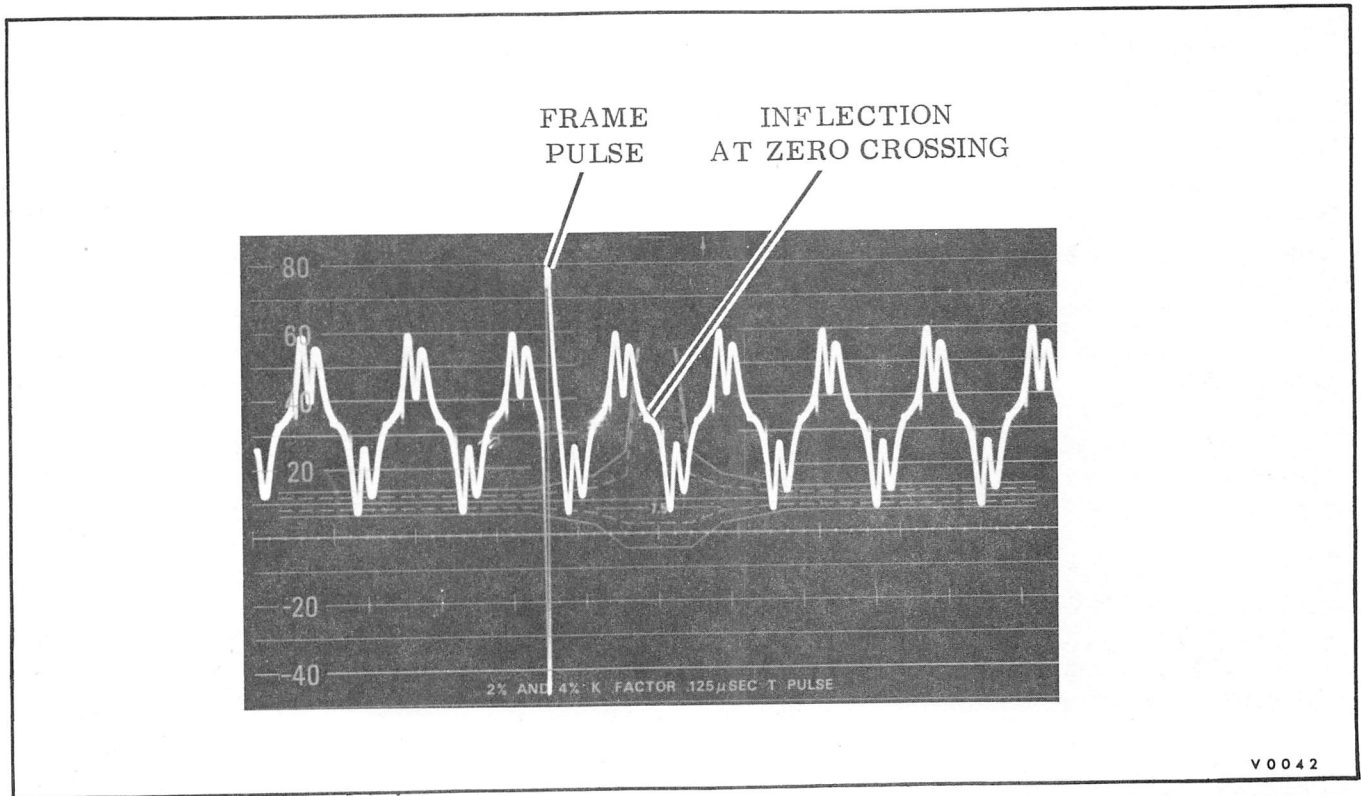

Figure 9-6. Control Track Waveform
h. While observing oscilloscope, determine which record amplitude produces a slight inflection in the region of the zero crossover of the control track playback signal. (See Figure 9-6.)